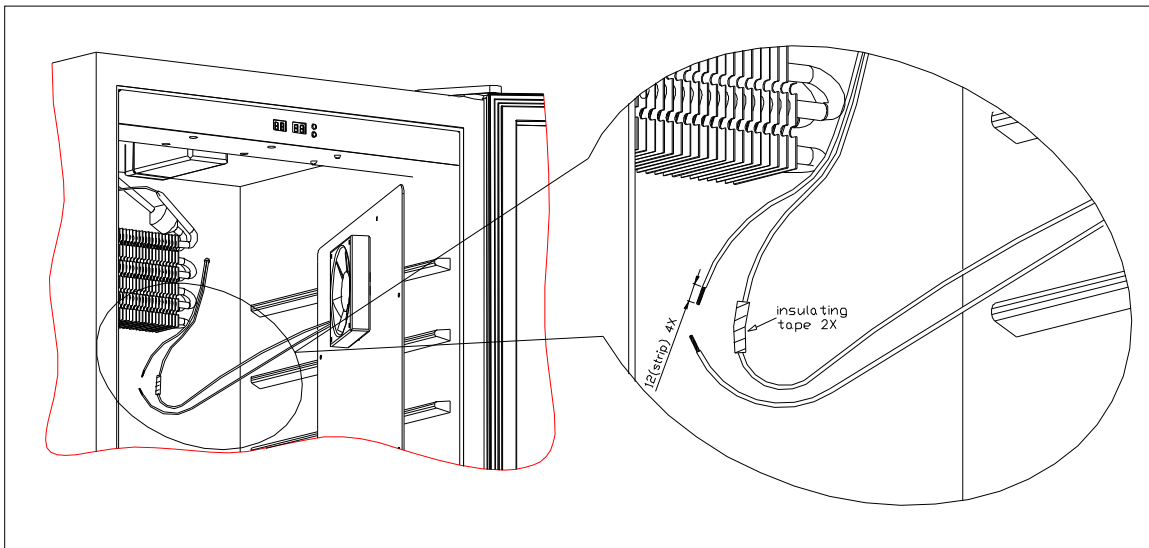

Fig.14
**Ensure this electrical joint is sealed against future water damage, and is electrically safe (Fig.14)**